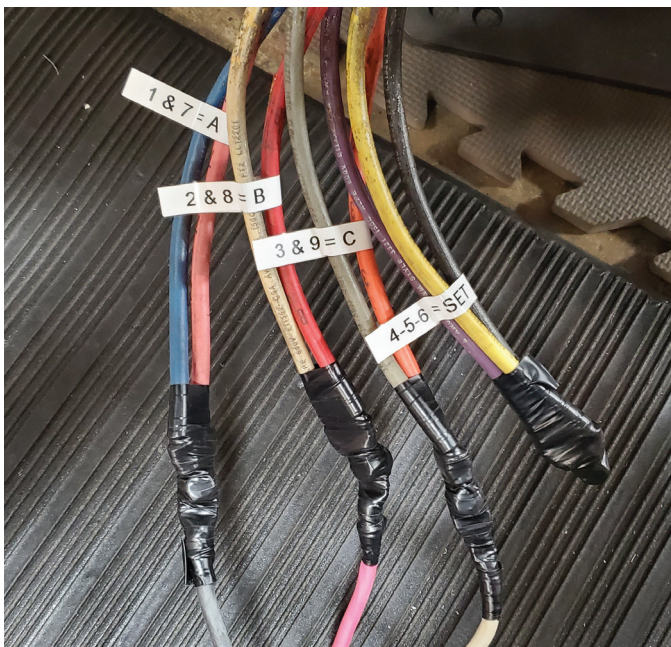

Figure 3.2.2
Locate the (A) terminal. Connect one wire to this single barrel lug. This wire should connect to wires 1 and 7 inside the idler junction box using ring terminals bolts and nuts. (See fig. 3.2.2 on pg. 11.)
Locate the (B) terminal. Connect one wire to this single barrel lug. This wire should connect to wires 2 and 8 inside the idler junction box using ring terminals bolts and nuts. (See fig. 3.2.2 on pg. 11.)
Locate the (C) terminal. Connect one wire to this double barrel lug. This wire should connect to wires 3 and 9 inside the idler junction box using ring terminals bolts and nuts. (See fig. 3.2.2 on pg. 11.)
Inside the idler junction box you will find 3 remaining wires marked 4,5, and 6. These wires should be bolted together. (See fig. 3.2.2 on pg. 11.)